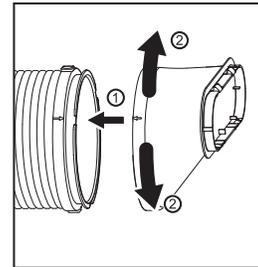

Fig. 2
2.2 Use the same way to connect the hose outlet and hose; (Fig. 2)